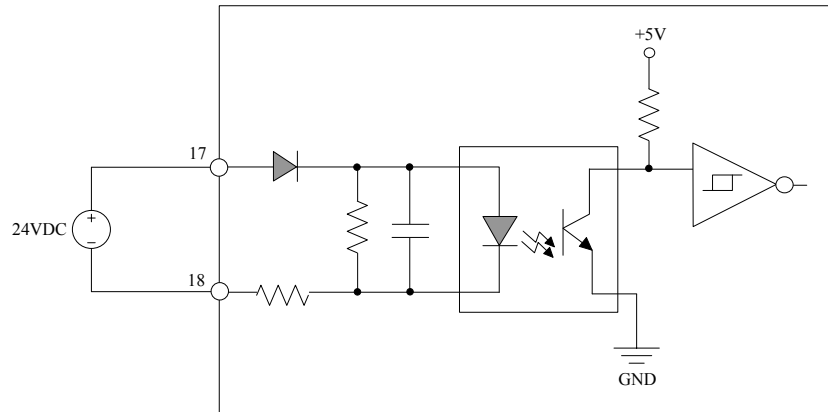

Figure 10.27: Field Power Loss Detection Circuitry
- Reference to Figure 10.27, Terminal “17” connects to the positive of field power supply while terminal “18” connects to its negative. It carries out power loss detection by checking the changes of input voltage between these two terminals. In case of any failure, the failure status will be reported to the controller with the diagnosis data.